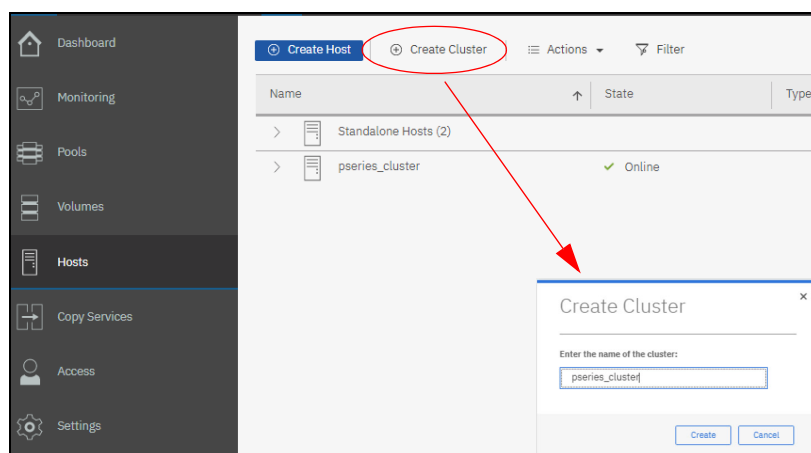

Figure 9-54 Hosts view: Create Cluster window
3. The Hosts window opens, as shown in Figure 9-54. Click **Create Cluster**.
4. The Create Cluster window opens, as shown in Figure 9-54. Specify the name of the cluster, and click **Create**.